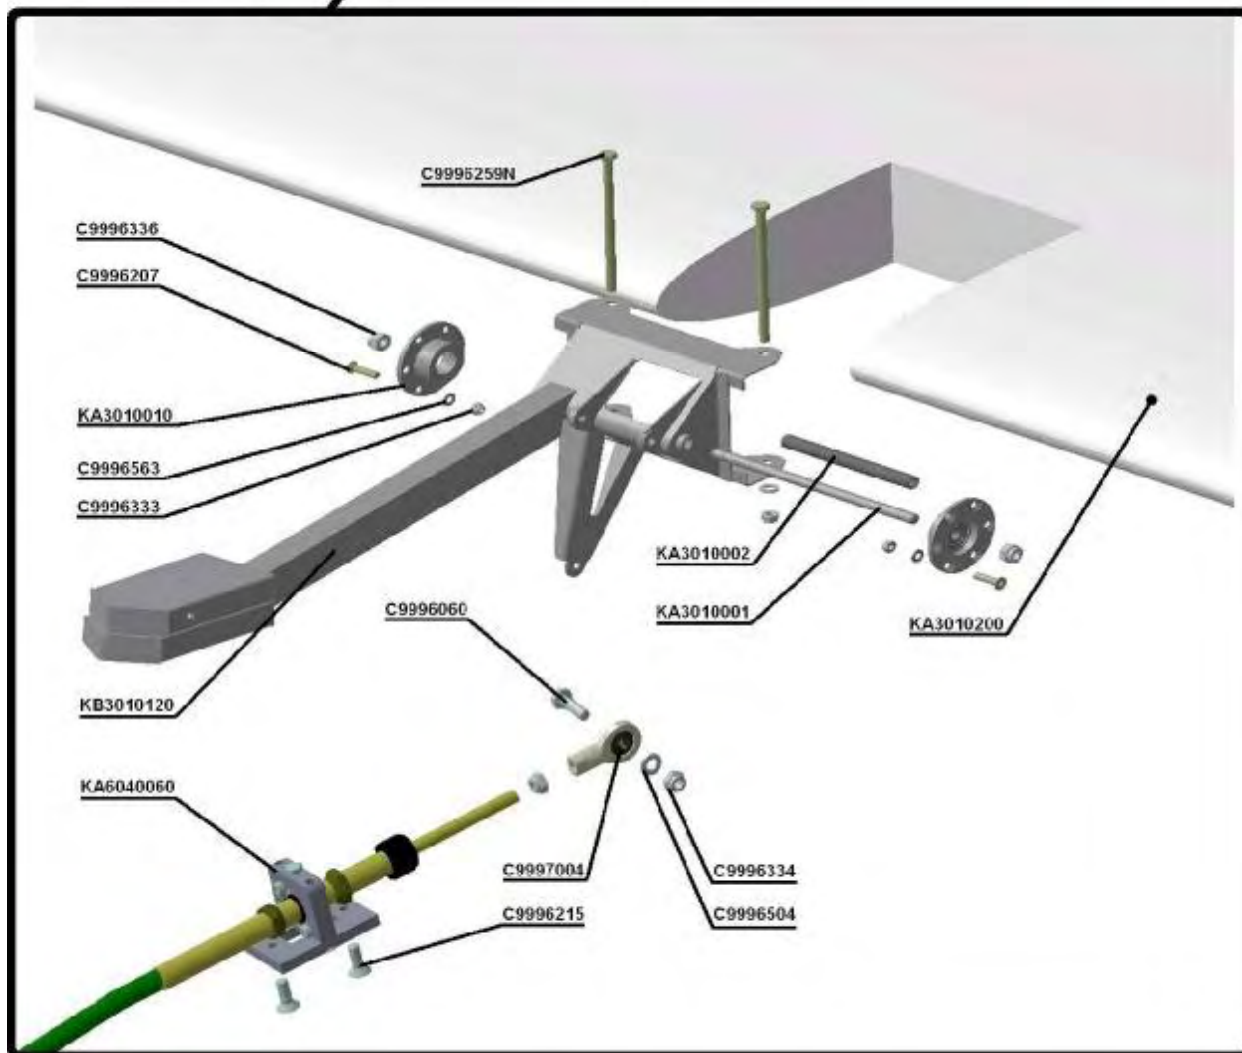

Fig. 2
10. Using a bolt C9996060 Bolt DIN 912 M6x35-8.8 connect to rod tip C9997004 (Rod end bearing, int. thread SI6E) to the stabilator bracket B3010120. Tighten the nut C9996334 (Self-locking nut DIN 985-M6, regular) using two 10x13 wrenches to torque 80 lb-in (9 N\*m) (Fig. 2).